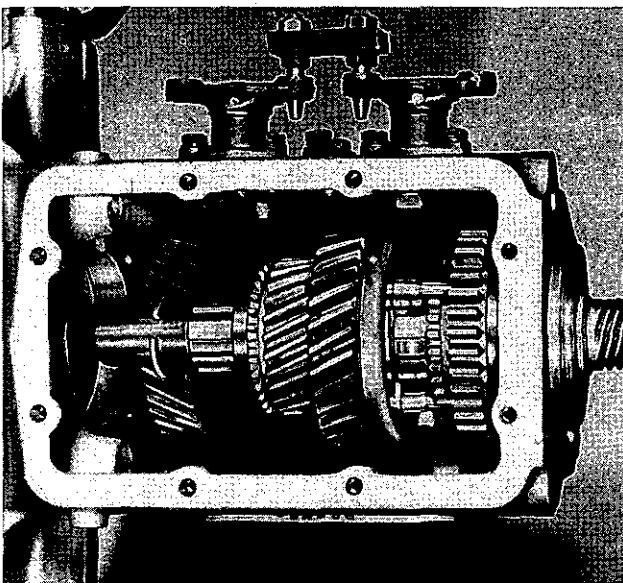
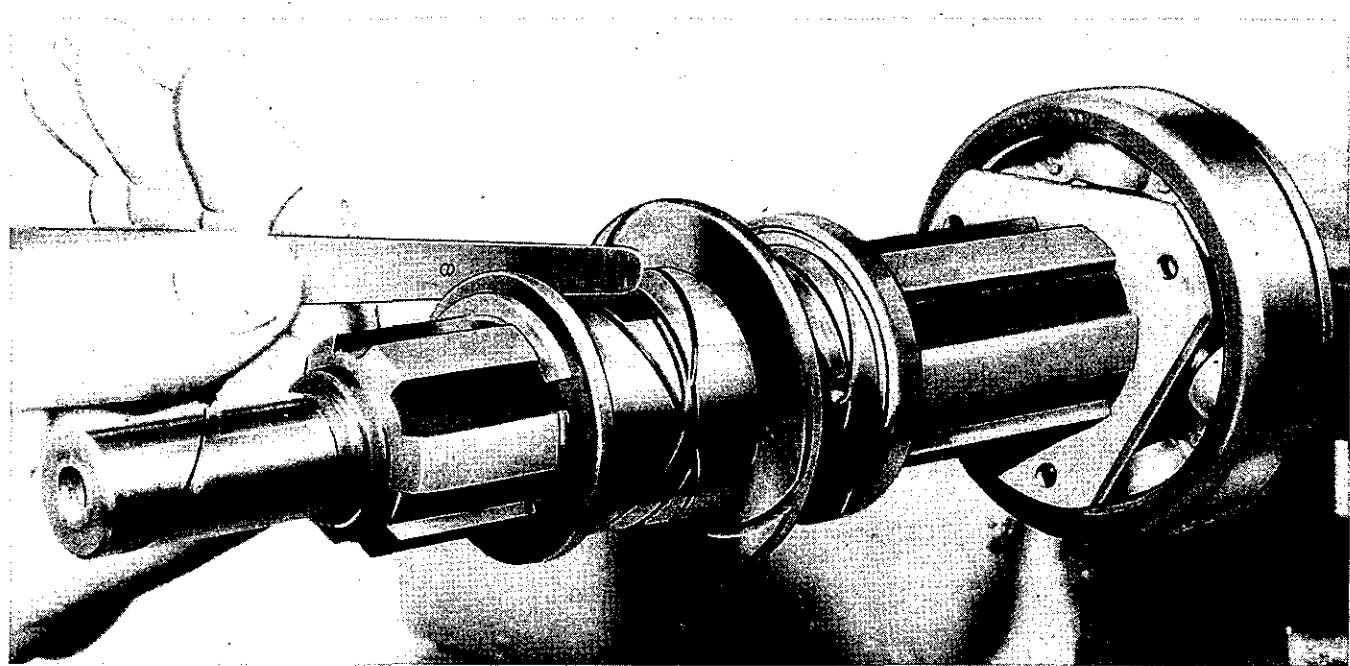
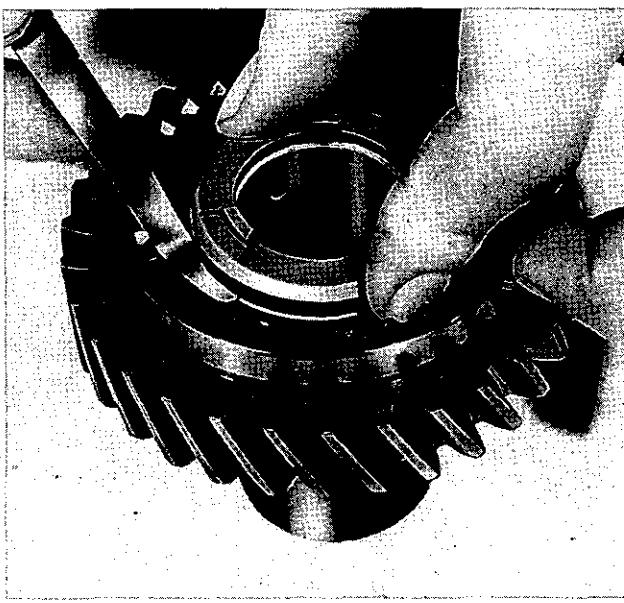

Fig. 12. Showing use of adaptor sleeve for installing circlip with special sleeve (Churchill Tool No. 20SM-46). Note selector locking bracket (Tool No. 20SM-67)
Fig. 20. Checking end float in mainshaft bearing bushes with half circlip and feeler gauge
Fig. 22. Checking end float of "first" constant wheel on bush
4. Reassemble spigotted interlocking device and subsequently fit bracket, as shown in Fig. 12 to fix selectors and thus prevent any possibility of the interlocking plunger falling into the gearbox casing.
- (f) Fit new circlip employing tool shown in Fig. 12. It is important to ensure that the thrust washer which abuts against the second mainshaft gear, where new parts have been fitted, permits the circlip to go properly home in its recess and if it is necessary the thickness of the thrust washer should be suitably adjusted to just provide the necessary clearance to allow the circlip to be rotated freely in its recess and be tested with a half circlip as shown in Fig. 20.
.004"—.006" in the first and second constant gears and can be measured as shown in Fig. 22 and 23 respectively. Overall float on these gears can be measured as shown in Fig. 20 and should be from .007" to .012".
- 9. The mainshaft may now be installed in the gearbox casing. Assemble mainshaft gears in sequence indicated under operation 8. Fit mainshaft circlip as shown in Fig. 12.